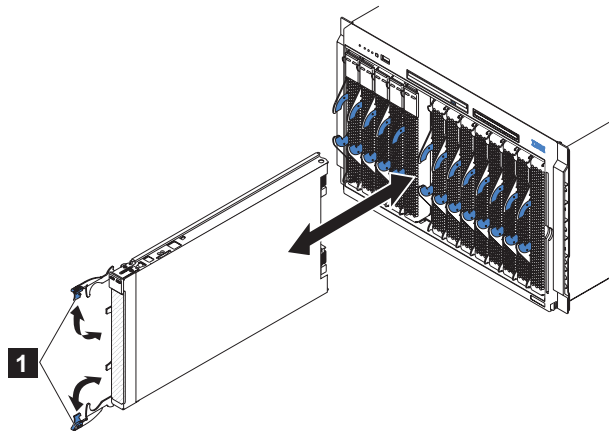

Figure 12. Installing the blade server in a BladeCenter unit
5. Verify that the release handles on the blade server are in the open position (perpendicular to the blade server, as shown in **1** in Figure 12 on page 254).